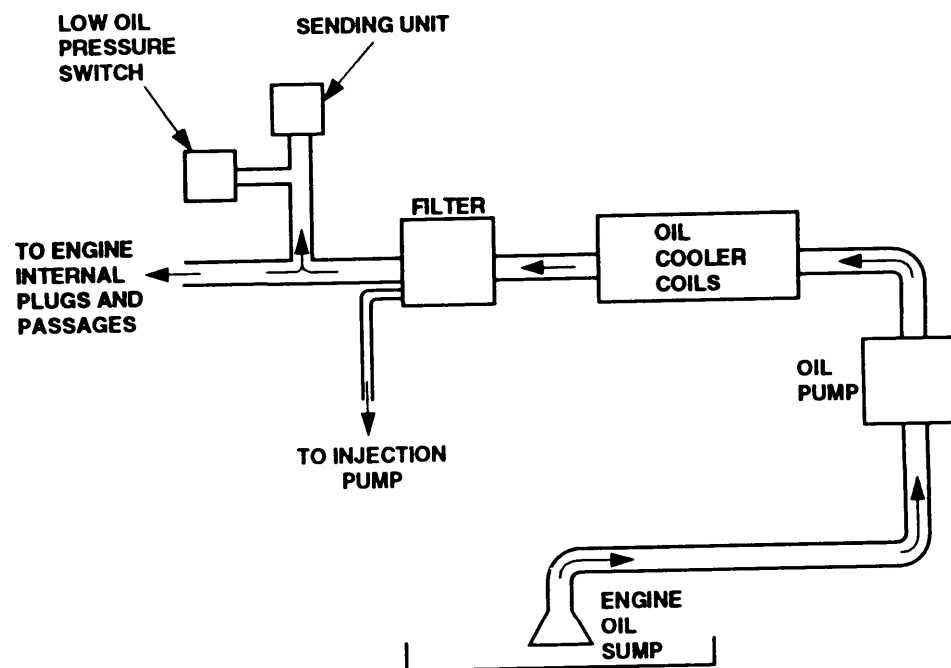

Figure 1-8. Lubrication System Functional Diagram.
1.14.2.5.2 Lubrication System. The lubrication system (figure 1-8) provides lubrication and cooling to the engines parts. The oil sump has an 8.5 quart (8.04 liter) capacity and is filled with oil. The oil pump is a gear type element driven by a gear in the engines front cover. When the engine is operating, a gear drives the oil pump and oil is pumped from the oil sump to the oil cooler. The oil cooler is a coil cooled by the cooling fan. The cooling fan causes oil to cool to a lower temperature. Oil is then pumped into the oil filter which is a throw-away element. Contaminants are removed from the oil and the oil is pumped to the engine metering plugs. Metering plugs are oil jets within the engine block that spray oil on to internal parts of the engine. Oil is also pumped to the injection pump lube supply. The fuel injection pump lube supply is a line on the side of the oil